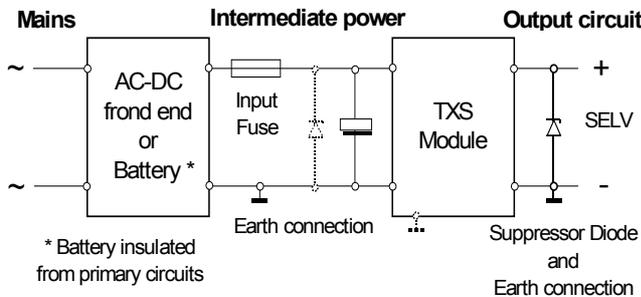

Figure 42: Supply system with TXS. All possible additional elements are shown. See notes 1 to 7 if they are required or not.
- The power system consisting of the TXS modules and the primary supply (see figure 42) should successfully pass the SELV reliability tests.